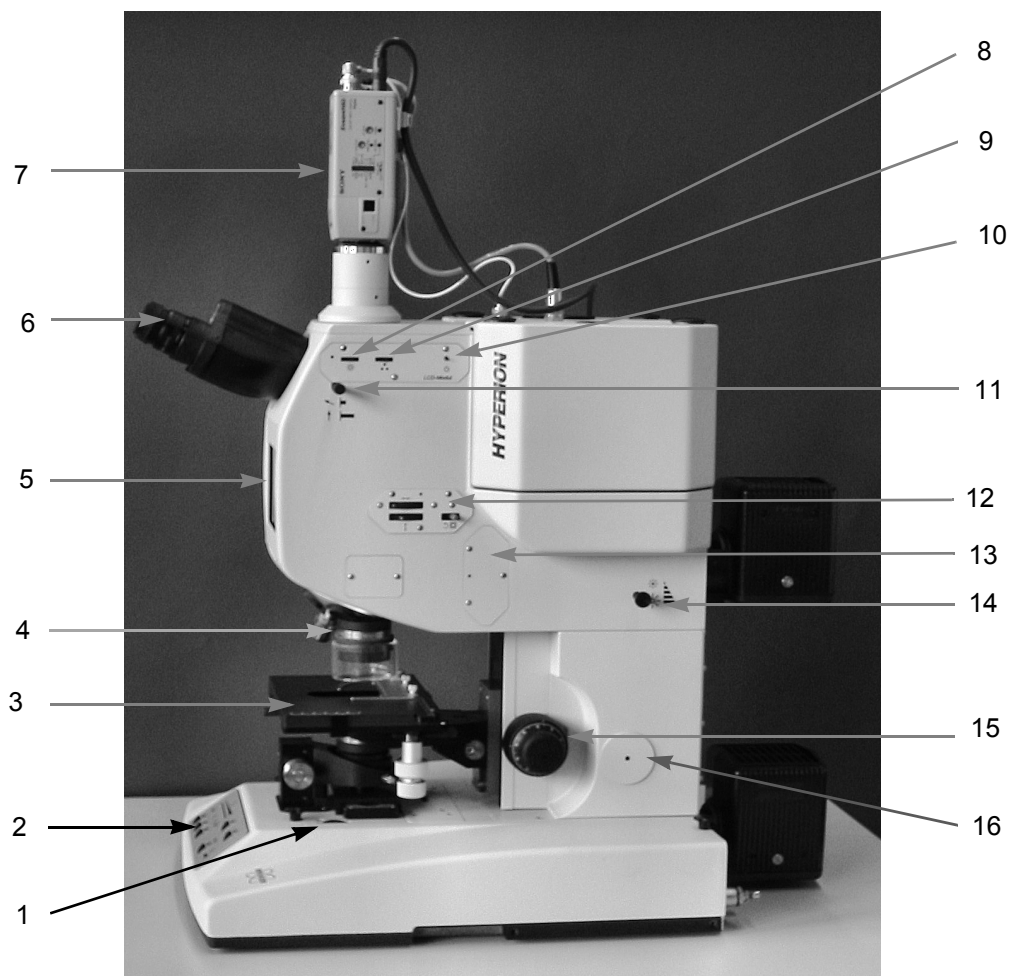
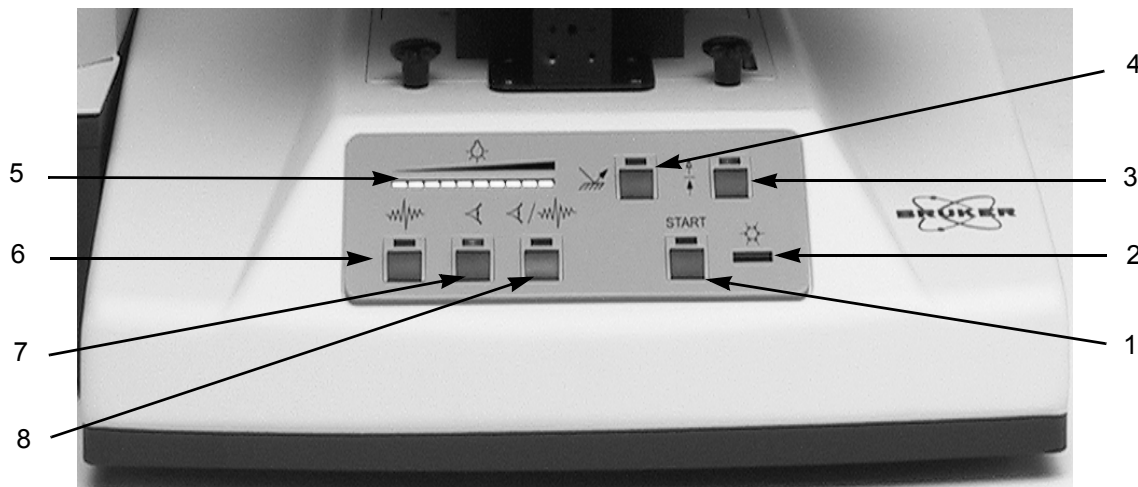
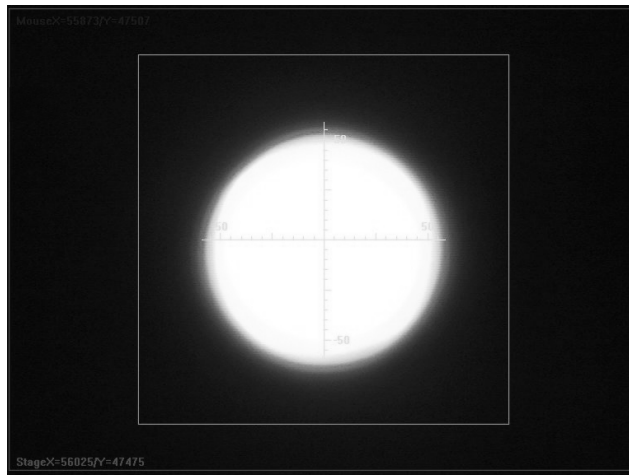

Figure 2: HYPERION - Right Side View
Figure 5: Control Panel
Figure 16: Image in Transmittance Mode
3	<p>Visible light intensity control (thumb wheel): to adjust the visible light intensity at the sample. Rotating the thumb wheel forward decreases the visible light intensity. Rotating the thumb wheel backward increases the visible light intensity. (The visible light intensity is indicated on the control panel by a graph bar display (5 in figure 5))</p> <p>Note: Do not confuse the visible light intensity control with the Köhler aperture (14 in fig. 2). The Köhler aperture is used to adjust the light intensity (in reflectance mode) without changing the color temperature. Whereas the visible light intensity control changes the amperage in the tungsten filament wire of the light source (in reflectance and transmittance mode). This can cause a color cast because the color temperature depends on the supplied amperage.</p>
- Press the VIS button and the reflectance mode button on the control panel. (See figure 5.)
- Press the transmittance mode button on the control panel. (See figure 5). The result will be a bright and sharp image showing the light passing through the pinhole. (See figure 16.)
- Press the IR button on the control panel (figure 5).
- If the condenser is adjusted properly the image will be similar to the one shown in figure 16.